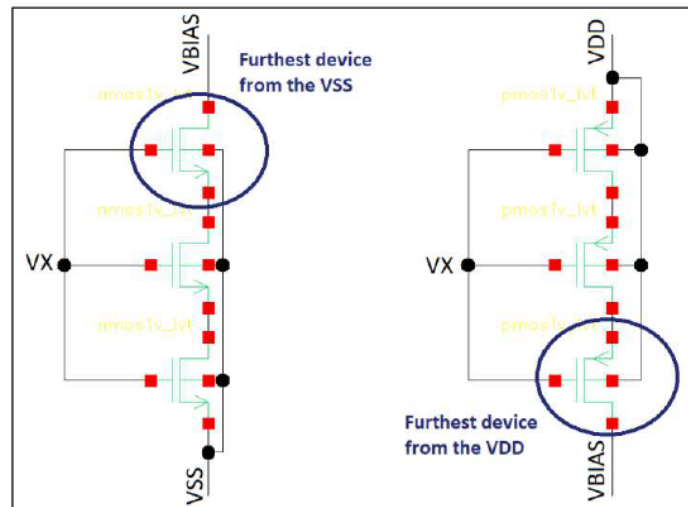

Figure 8. Stacked MOS device DCOP check rule
- **For DC operating point (DCOP) checks, we have to examine the devices that are furthest from the VDD/VSS sources as Figure 8.**